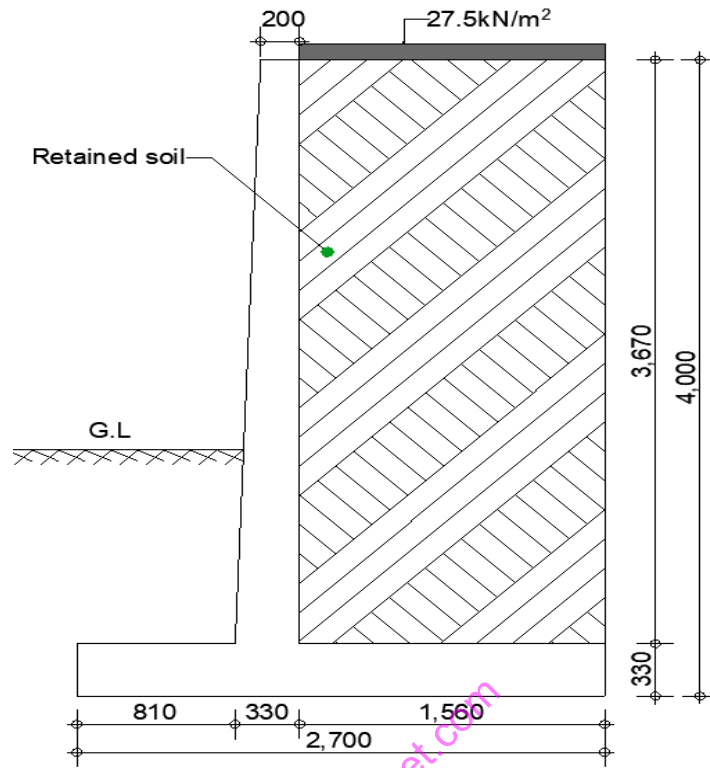

Fig 4
14. Analyze the retaining wall shown in figure 4 for overturning, sliding and bearing of soil given the factor of safety is 1.5, given that, $\Phi=30^\circ$, unit weight of soil = 18kN/m³, coefficient of friction = 0.6, allowable soil bearing capacity = 180kN/m³ and unit weight of soil = 24kN/M³.